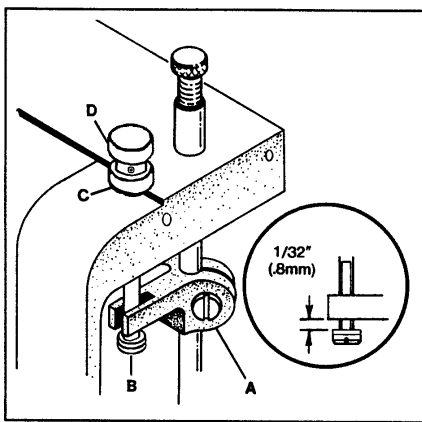
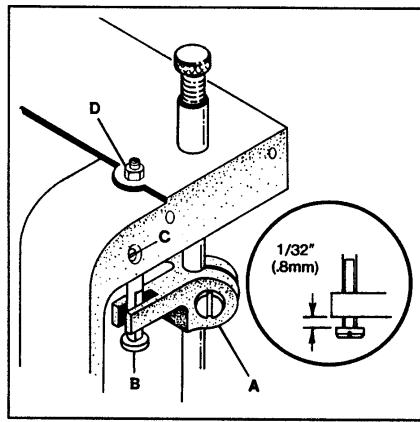

FIG. 37A
FIG. 37B
When sewing on extremely lightweight material and/or feed cutting is a problem, the presser foot may be "hung" by raising stud (B) until guide (A) rests on the shoulder of stud (B). This adjustment will raise the presser foot slightly, so only the pressure of the presser foot shoes contact the material. Turn handwheel in operating direction until the feed dogs are below the throat plate surface. At this time there should be a 1/32" (0.8mm) clearance between the bottom of presser bar guide (A, Fig. 37A&B) and presser bar guide stud (B). On 36200UY52&UY60 to hang presser foot, loosen lock nut (C Fig. 37A) and turn thumbscrew (D Fig. 37A) so that the foot comes up slightly, tighten nut (C Fig. 37A). On all other 36200 machines loosen screw (C Fig. 37B) and turn nut (D Fig. 37B) so that foot comes up slightly, tighten screw (C Fig. 37B).